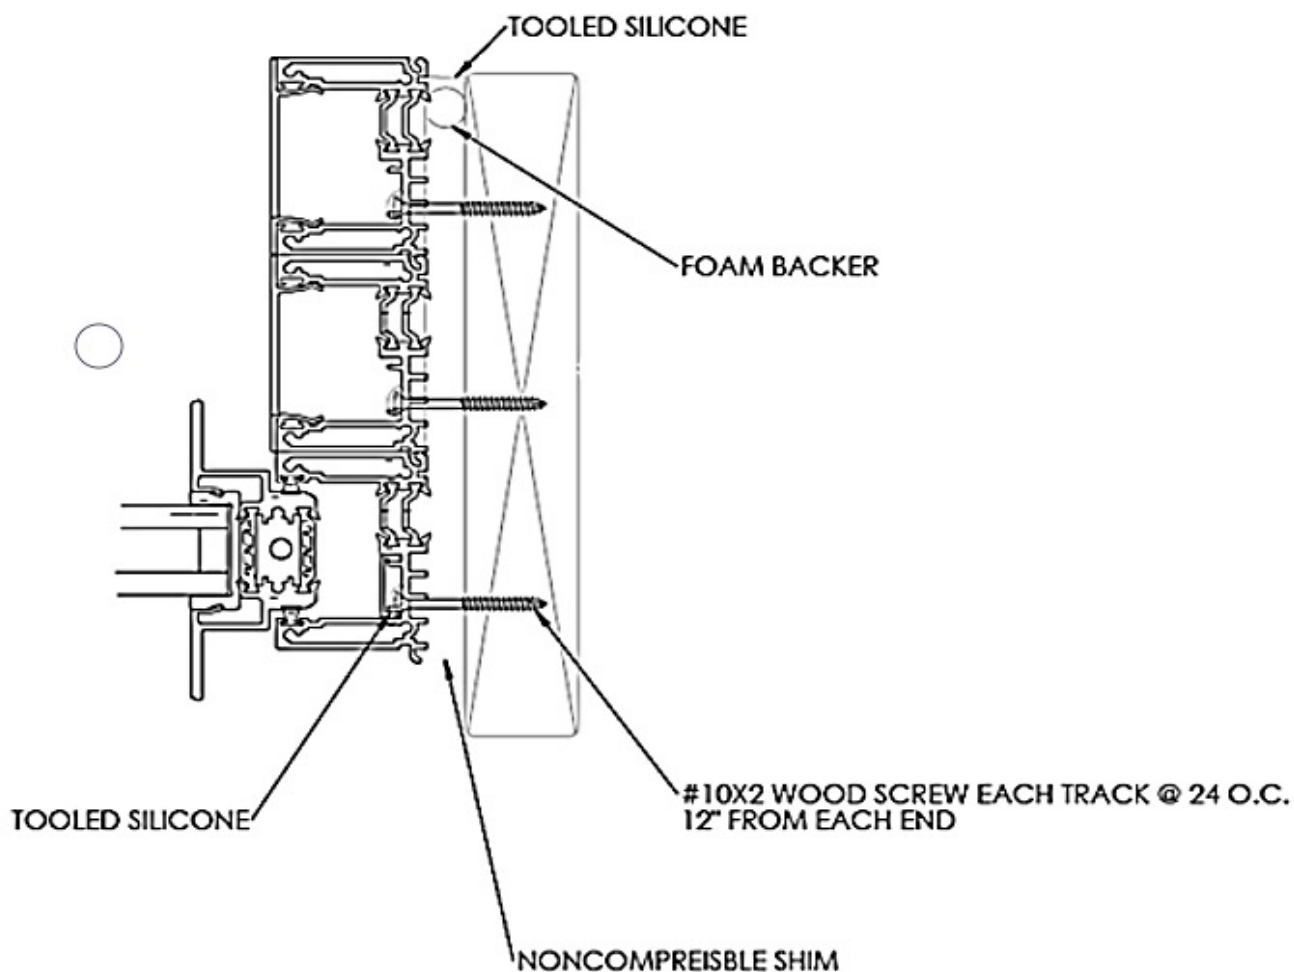

Figure 12
20. Shim the lock jamb/s as required to ensure they will be plumb and anchor to the structure through the additional holes using #10 X 2.5" flat head screws. (See Figure 12).